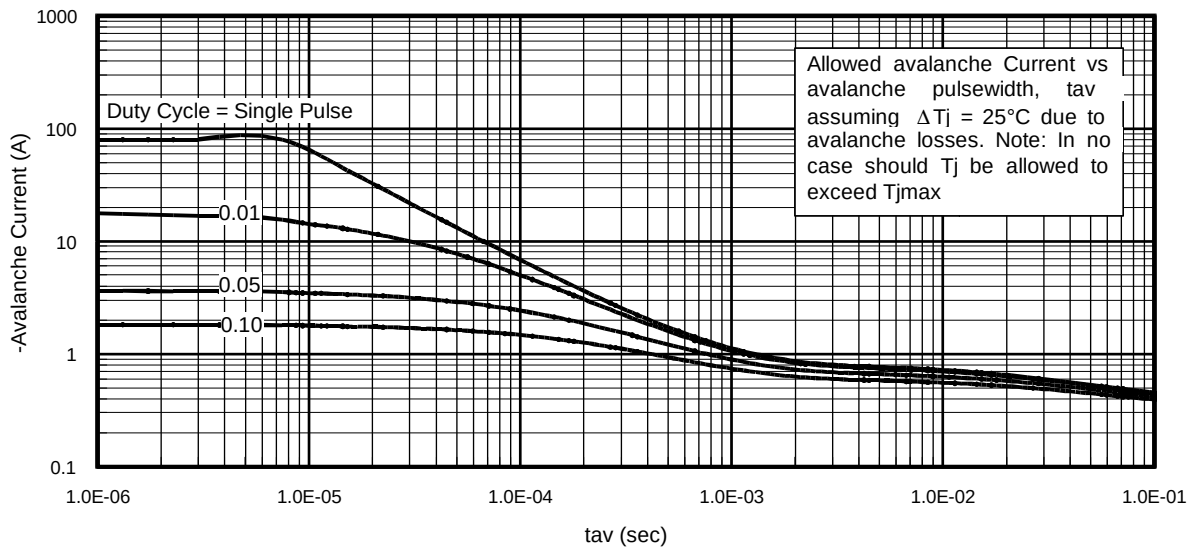

Fig 14. Typical Avalanche Current Vs. Pulsewidth
Notes on Repetitive Avalanche Curves , Figures 14, 15:
7. ΔT = Allowable rise in junction temperature, not to exceed T_{Jmax} (assumed as 25°C in Figure 14, 15).
- ① Repetitive rating; pulse width limited by max. junction temperature.
- ② Starting $T_J = 25^{\circ}\text{C}$, $L = 3.89\text{mH}$, $R_G = 25\Omega$, $I_{AS} = -10\text{A}$.
- ③ Pulse width $\leq 400\mu\text{s}$; duty cycle $\leq 2\%$.
- ④ R_0 is measured at T_J of approximately 90°C .
- ⑤ Limited by $T_{J\text{max}}$. See Figs. 14, 15, 17a, 17b for repetitive avalanche information.